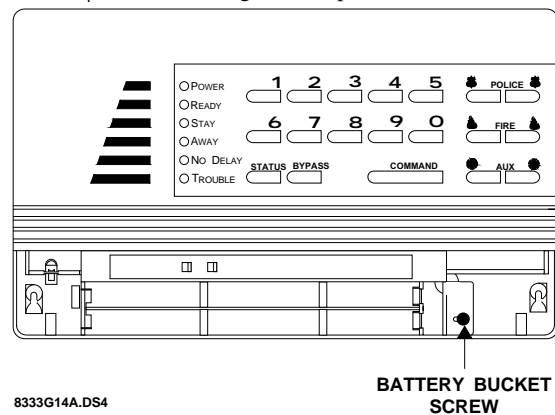

Figure 2. Remove the battery bucket screw
- Remove the battery bucket from the panel by removing the screw securing it on the right side (see Figure 2).